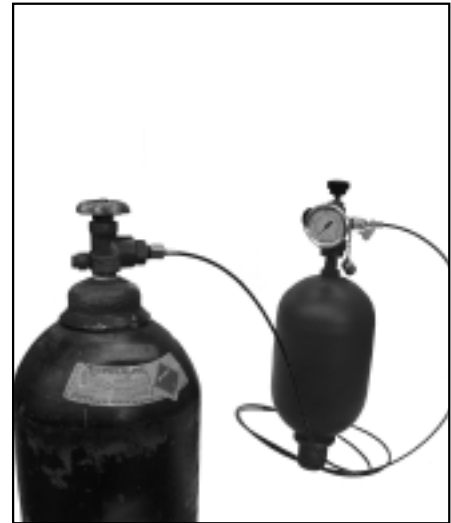

Figure 2.
- Fit the gas valve adaptor (included in Stauff charging kit) to the nitrogen bottle, make sure that the gas valve on the nitrogen bottle is closed (see Figure 2.) then attach gas hose to the gas valve adaptor on the nitrogen bottle.
- SLOWLY open valve on nitrogen bottle (Figure 2.) and allow the gas to flow to the accumulator.
- Once the desired gas pre-charge pressure has been reached, close valve on nitrogen bottle (Figure 2).